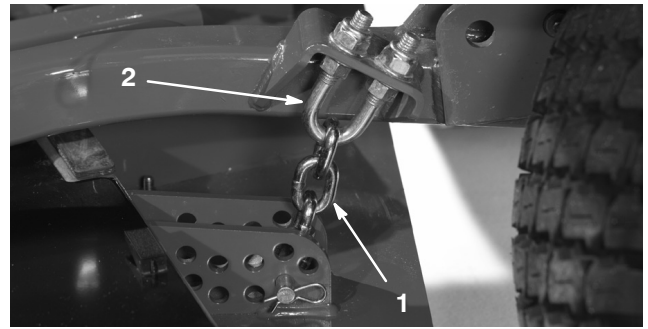

Figure 83
- Loosen the jam nuts on the top or bottom of the height-of-cut chain u-bolt (Fig. 83).